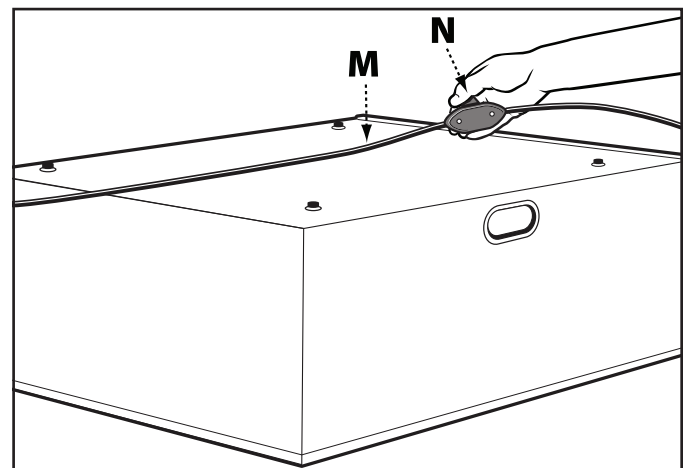

FIG. 7
The Air Cleaner is equipped with an in-line rocker switch (M) Fig.7, located on the power cord (N). To start or stop the motor, press downward on the rocker switch, according to the markings on the side. When you are finished with the air cleaner, turn the switch off rather than unplug the unit.